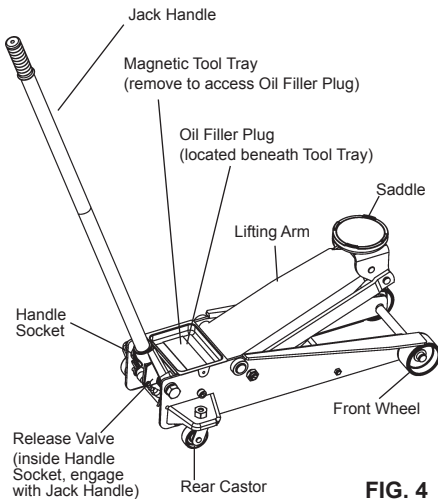

FIG. 4
Compare Fig. 4 illustration with your jack BEFORE operation to become familiar with the location of various jack components.
- Remove the oil filler screw from the cylinder (Fig. 4).
- Close the release valve by turning the jack handle clockwise until tight (Fig. 4).
- Refer to the vehicle manufacturer's owner's manual to locate approved lifting points on the vehicle. Position jack so that the saddle (Fig. 4) is centered under the load at an appropriate lift point.
- Position the jack on level ground and fully lower the saddle. (Ram will be all the way in). Remove oil filler plug from the reservoir (see Fig. 4 & 5).